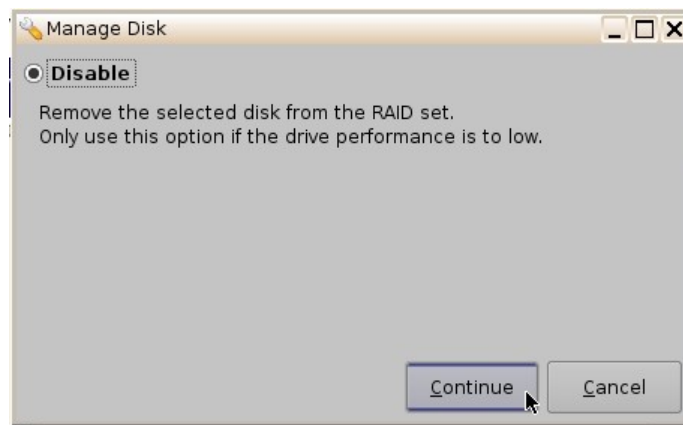

Figure 43: Storage Tab – Drive Disable Process
- The user will be prompted to the Manage Disk window (Figure 43).